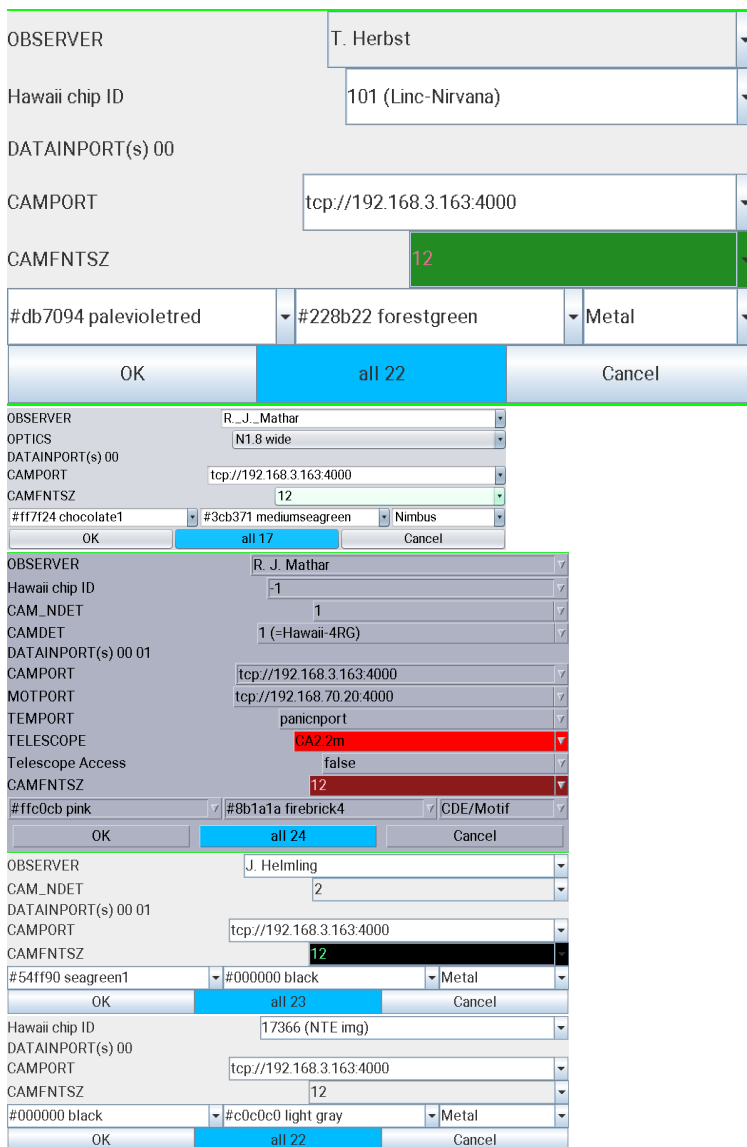
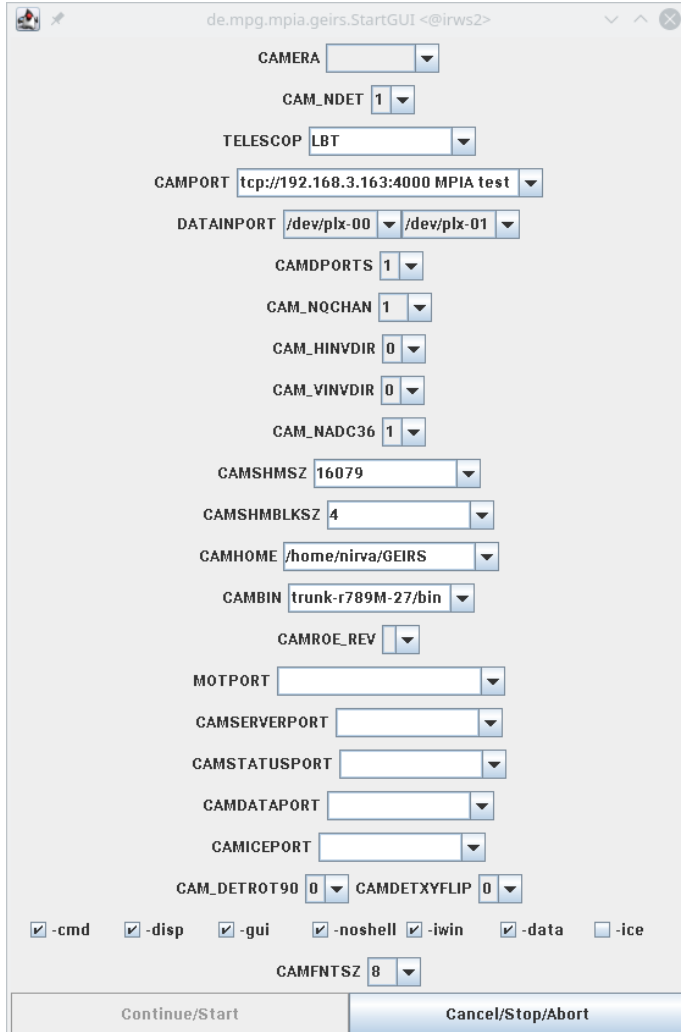

Figure 7: Startup screen to start GEIRS. Which of these layouts appears depends on the instrument.
Figure 8: Engineering startup with `geirs.start`.
2. modifications of the environment variables by the engineering GUI in Figure 8;
4. modifications of the availability of subsystems (simulation) defined in the GUI in Figure 7;
³² If no command line option is used, `-gui` is implicitly activated. If the `-iwin` option was present (explicitly or implicitly), it commences with the start-up screen of Figure 7. The controls and/or the image GUI will be opened depending on the presence of the options `-gui` and/or `-disp`. The command server is started depending on the presence of the option `-cmd`. The `-gui` option works only if the command server is either started here or already running. The data server is started depending on the presence of the option `-data`. The real-time display requires that the data server is run.
Some parameters may be edited in Figure 7 at this time:
The GUI in Figure 7 allows essentially to move subsystems into simulation mode. If you are not satisfied with some of the selectable parameters, you need to start from scratch, either with Figure 8 or by explicitly setting the shell variables before using the start-commands of Section 4.1.
The GUI in Figure 7 uses a countdown of 20 seconds, where the remaining time is indicated in the label of the `all` button. If no button is pressed to change the configuration within that time interval, it will continue to start (or fail to start) GEIRS with the currently selected set of parameters.³³
After you press **all** in Figure 7, the subsystems (most noticeably the ROE) are initialized and the GEIRS window of Figure 9 will appear. At that time all (recent) instrument patterns send commands to the ROE which switch most of the ROE’s LED’s off. The LED’s of the network card of the ROE cannot be manipulated by these software means (and must be taped to shield their light).
If some subsystems of GEIRS, like the ROE, the Motors or the Telescope are set to the simulation state in Figure 7, some parts of the GUIs described in this manual display yellow backgrounds in menus to provide a visual warning that the corresponding section of the action or information is in some state of software emulation/simulation.
which pops up similar to Figure 8. This allows *experienced* users to edit many parameters on a finer level without editing the `geirs_start_gen` script, but at a higher risk of starting GEIRS with modes that are not supported.
The program scans (pings) a list of fixed ROE IP addresses and puts those that seem to be online into the selector for the `CAMPORT`. It puts subdirectories of `CAMHOME` that look like compiled GEIRS versions into the `CAMBIN` selector. If the `Continue/Start` button is pressed, the program sets some of the environment variables mentioned in Section 3; labels in the GUI and environment variables correspond to each other. Then it calls the shell script `scripts/geirs_start_gen` with the options set in the third but last line of Figure 8. See Section 5.5 for the meaning of the `geirs_start_gen` options. The principal rationale for having this GUI is that one can